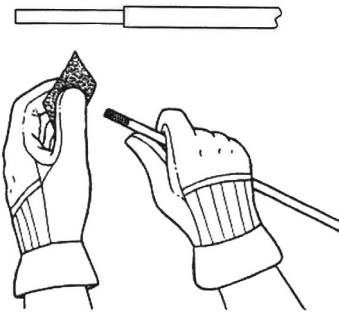

Fig. 1
2. Use emery cloth provided to roughen surface of fiberglass core end (*Fig. 1*). Do not remove large amounts of material during sanding.